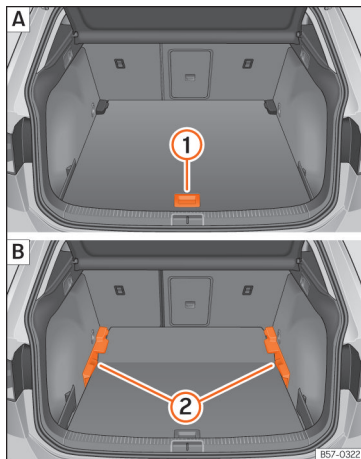

Fig. 130 Variable luggage compartment floor:
»» Fig. 130 ①, and pull it back until the front of the floor has fully passed the supports
»» Fig. 130 ②.
- Move the floor forward over the supports as far as the rear seat backrest and then lower the floor with the handle ①.
- Now let the front part fall to the floor and slide the floor forwards as far as the rear seat backrest; lower the floor at the same time with the handle ①.
- Lift the variable floor in the high position using handle »» Fig. 130 ①, pull it up and push it towards the backrest of the rear seats until it folds along the hinge line and the movable part of the floor is resting on itself.
- To move from the high position to the low position, lift the floor using the handle »» Fig. 130 ① and pull it back a little.
- Push the variable floor towards the folded rear seats with the handle ① using some downward pressure so that the moving part of the floor is flush with the backs of the rear seats.